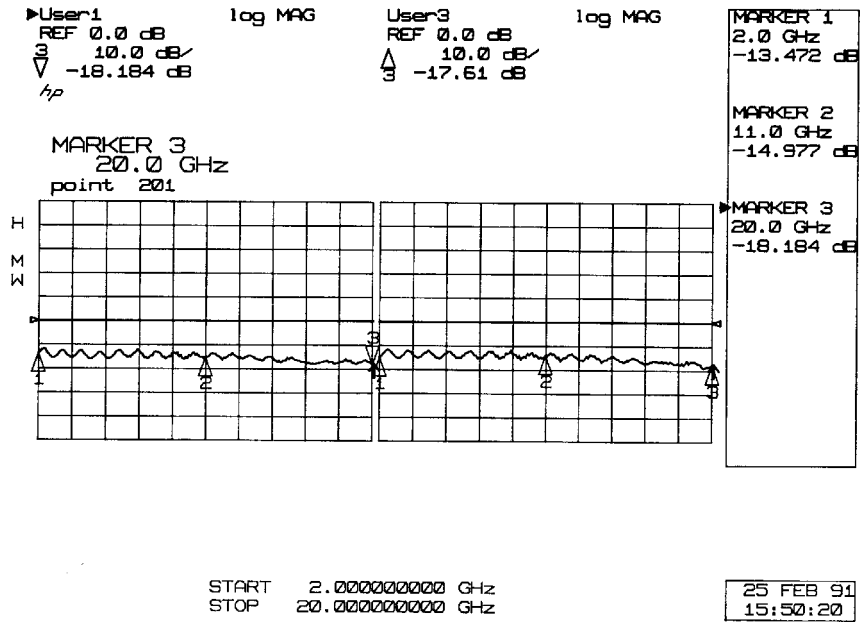
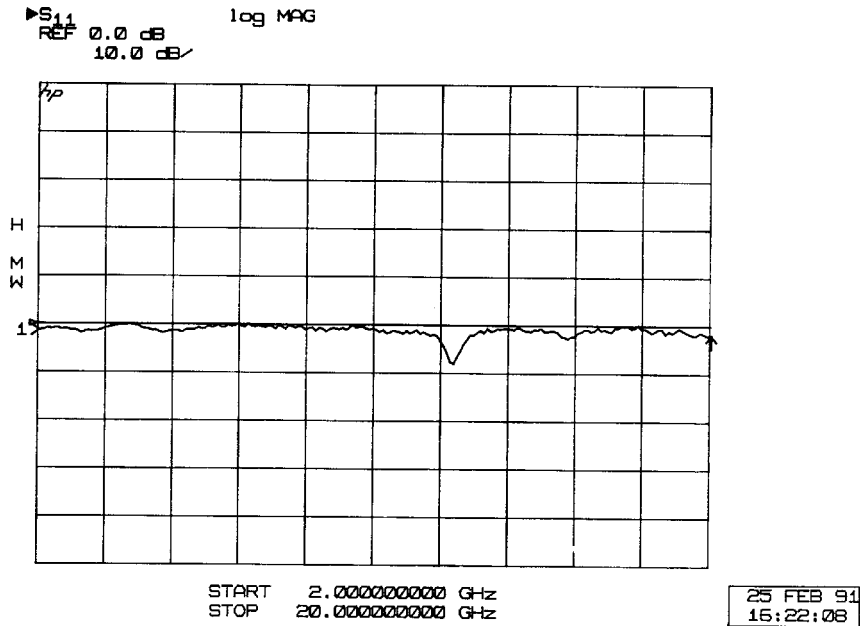

Figure 3-4. Instrument State 2
Figure 3-10. Instrument State 8
3. Repeat step 2 for the remaining instrument states and compare the results with Figure 3-4 through Figure 3-10.